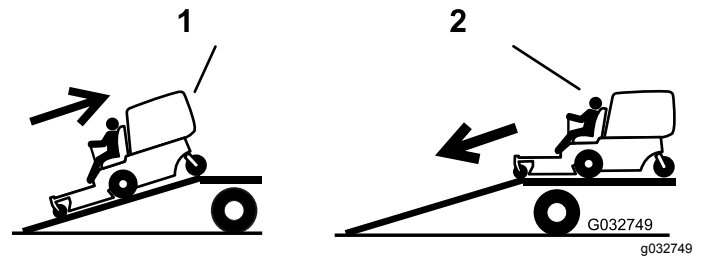

Figure 26
2. Drive the machine forward down the ramp (Figure 26).